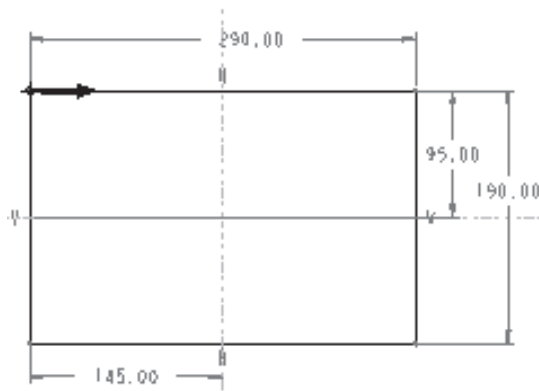

Figure 7-55 First rectangular section with dimensions
- b. Select the sketching plane for the blend feature. Draw the first section, apply dimensions and constraints, see Figure 7-55, and then toggle the section to draw the sketch for the second section.
1. Draw the sketch of the rectangular section and then add constraints and dimensions to it as shown in Figure 7-55.